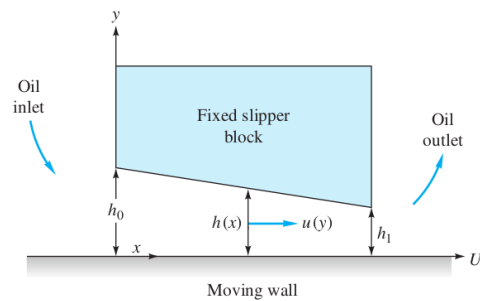

Fig. 4.13
4.13 The flow pattern in bearing lubrication can be illustrated by Fig. 4.13, where a viscous oil (ρ, μ)